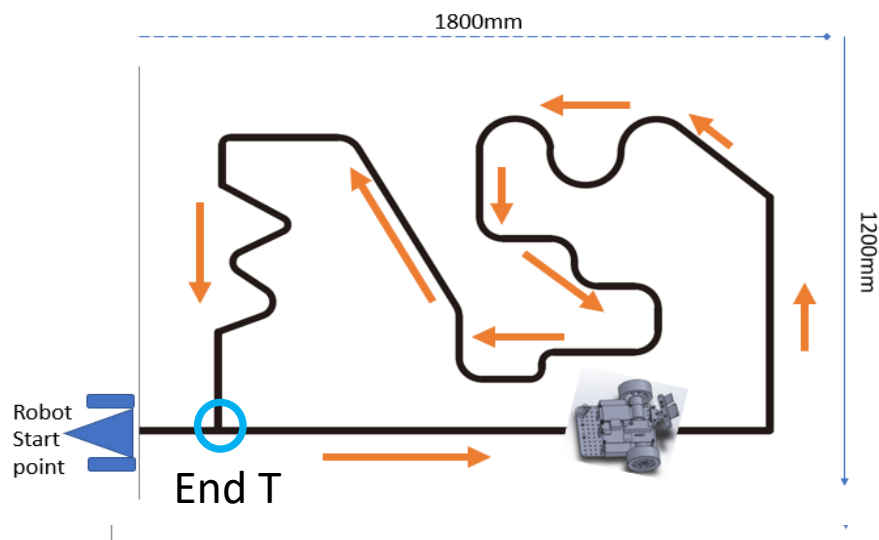

Fig. 1 Map of racecourse
Project objective is enhancing the knowledge gained from lectures and MCU workshops. With the knowledge, students got the skill to control a smart car to follow a black line (~18mm in width) on a racecourse as shown in figure 1.
*Refer to Fig. 1 Map of racecourse; the robot car must\* follow the black line from the robot start point (START, follow the routine as the arrows and finally **stopped** at the End T as fast as it can. Time will be taken as the reference of score. Each team will have **TWO** trials to achieve the goal. Only the best score of the trials will be encountered. Time limit for each trial is **TWO** minutes. (One minute before each trial for set up preparation)*